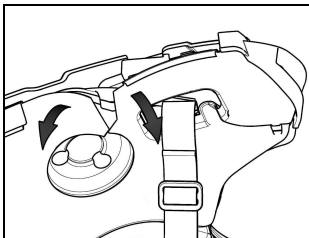

Fig. 6
- Lift up the plastic lining of the cheek padding (Fig. 6).